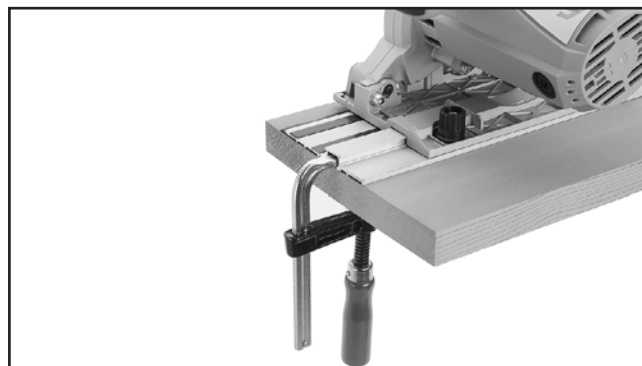

Figure 19. Rail track clamped to workpiece.
3. When satisfied with position of rail track, use F-clamps to secure it to workpiece, as shown in **Figure 19**, and place saw onto rail track.